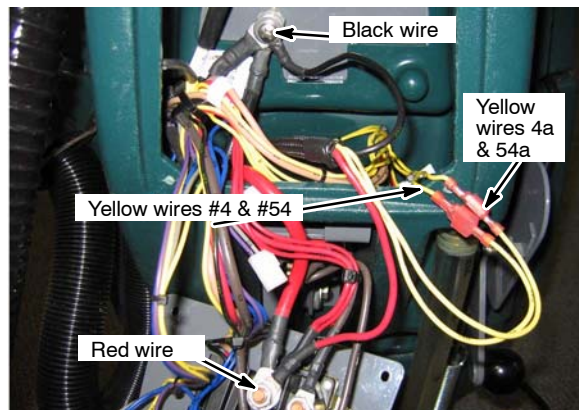

Fig. 7
8. Connect the kit harness wires to terminals as shown and replace control console panel (Fig. 7).